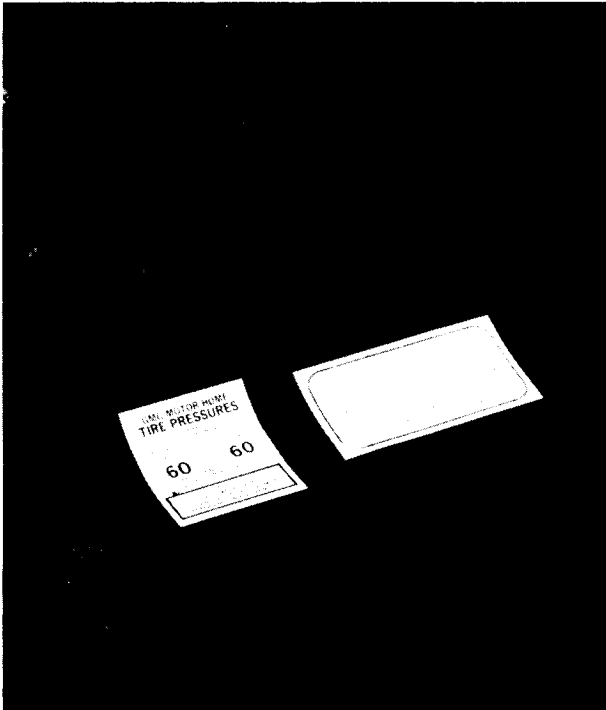

Figure 3
3. Install caution sticker on inside of glove box door next to tire inflation placard as shown in Figure 3.